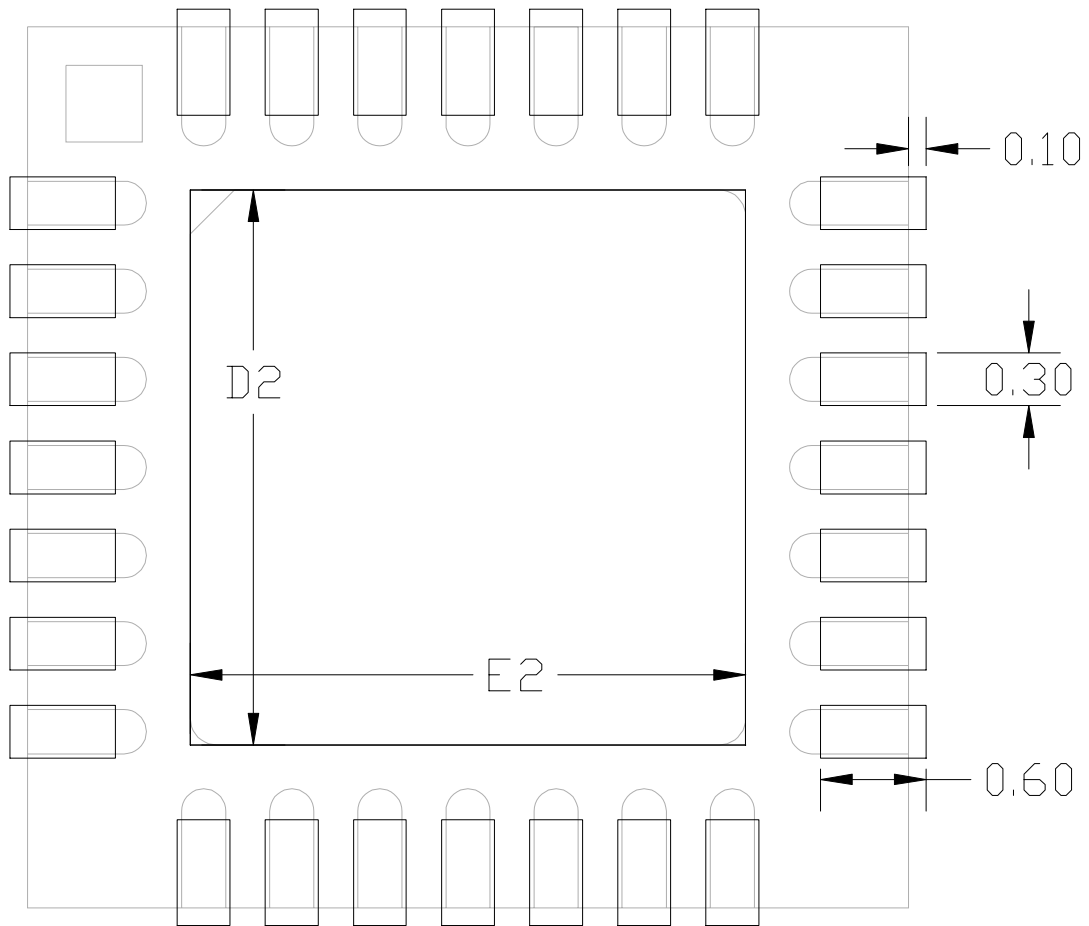

Figure 4. Typical QFN-28 Landing Diagram
- Updated package drawings in Figure 3, Figure 4, and Figure 5.